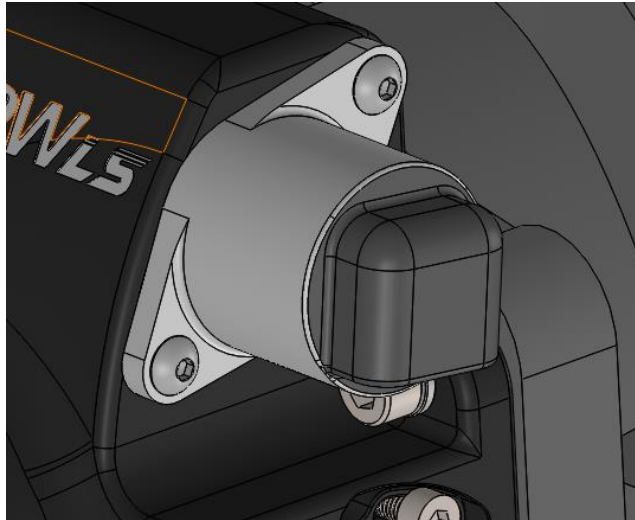

Figure 1: IAC motor configuration
2. Install with the plug orientated as shown in figure 1, using the 2x M4 button head screws supplied with the motor.